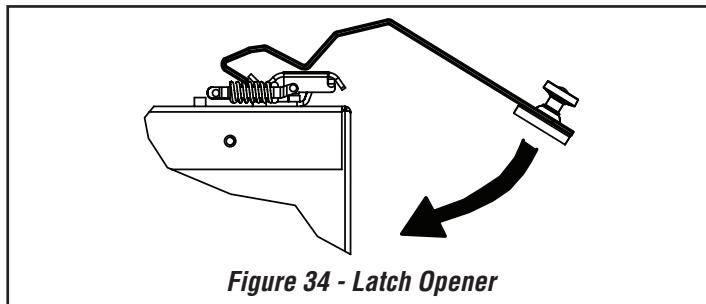

Figure 34 - Latch Opener
3. Hook opener over latch as shown in **Figure 34**. Swing the bottom of the opener down toward the door. You will not need to pull down.